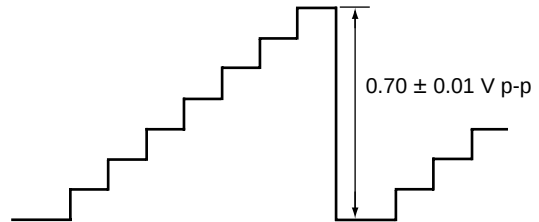

Fig. 3-2
3. Observe the TP2: BR board (G OUT) using an oscilloscope, and adjust the COMPONENT Y level so that the signal level will be $0.70 \text{ V} \pm 0.01 \text{ V p-p}$. (Fig. 3-2)